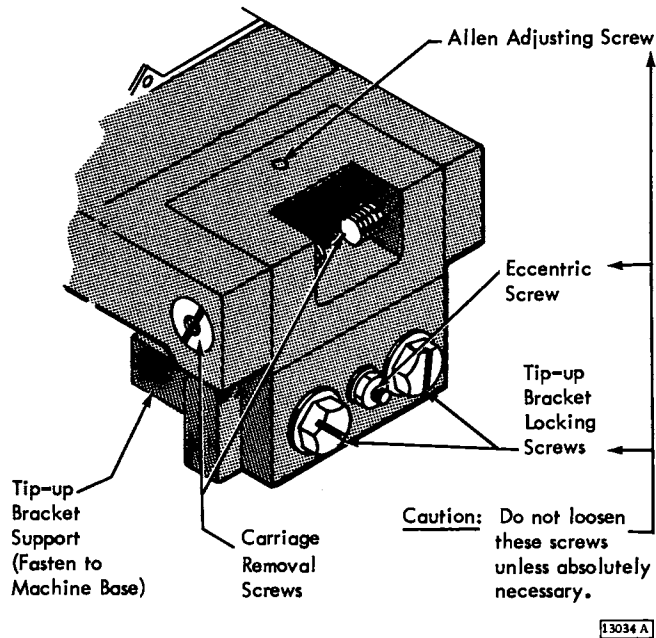
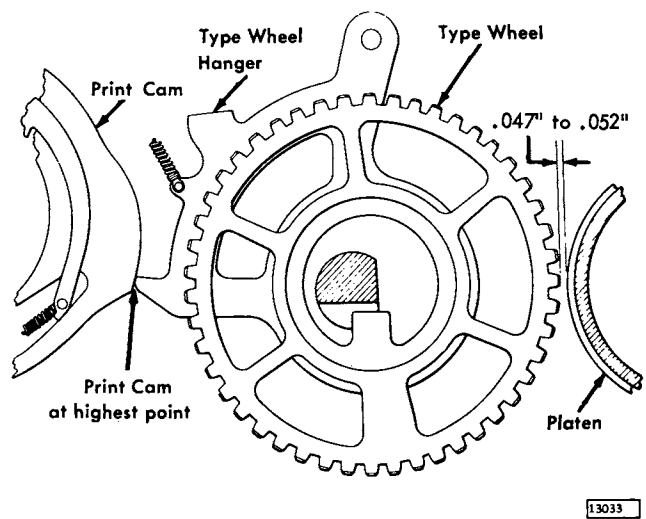

Figure 4-14. Carriage Platen Alignment
Figure 4-15. Print Wheel to Platen Clearance
When necessary to remove the carriage, it should be done by removing the two large tip-up shoulder screws, one at each end. (Figure 4-14.) This
2. Adjust the eccentric screw in the right and/or left tip-up bracket so that the platen will be 0.047" to 0.052" from the type face when the typewheels are held toward the platen by the high dwell of the print cam (Figure 4-15). It will be necessary to loosen the two large locking screws adjacent to the eccentric screws before making this adjustment (Figure 4-14).